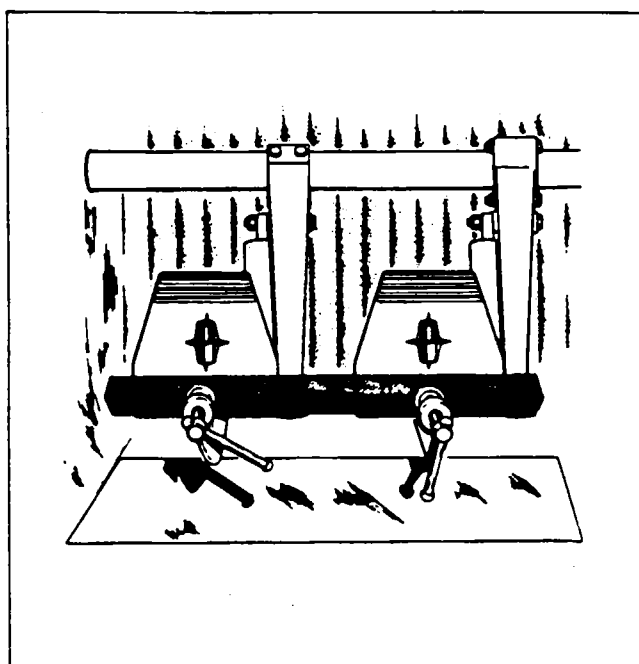

Figure 5-13. Clamping Rudder Pedals in Neutral Position
1. Clamp the rudder pedals to align them in a lateral position as shown in Figure 5-13.
5-47. RIGGING AND ADJUSTMENT OF RUDDER PEDALS. (Refer to Figures 5-13 and 5-14.)